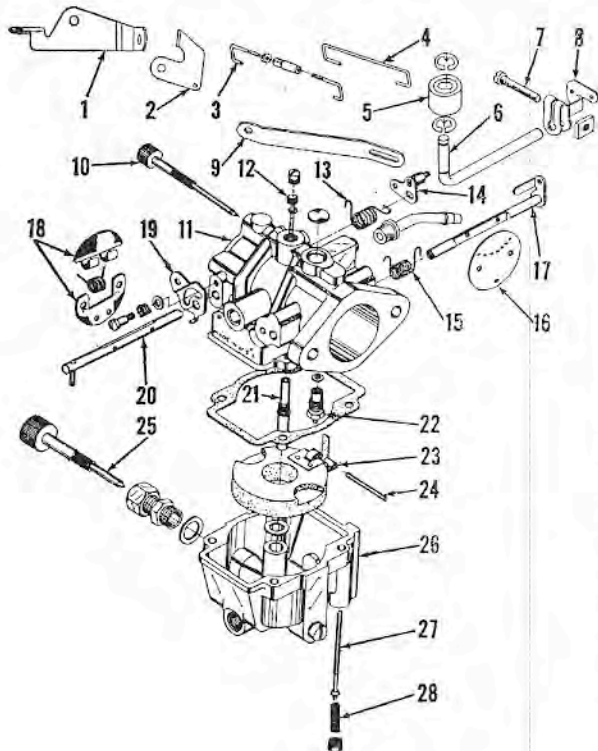

Fig. WB50 — Exploded view of Tillotson model OM carburetor.
CARBURETOR. Tillotson, type OM carburetors are used. Refer to Fig. WB50. Normal initial setting is one turn open for both the idle mixture adjusting needle (10) and the high speed mixture needle (25), on models so equipped. The 1963, 30 and 45 horsepower models are equipped with fixed main jets instead of high speed mixture needle (25). Carburetor must be readjusted under load, after motor is warm, for best high speed and low speed performance.